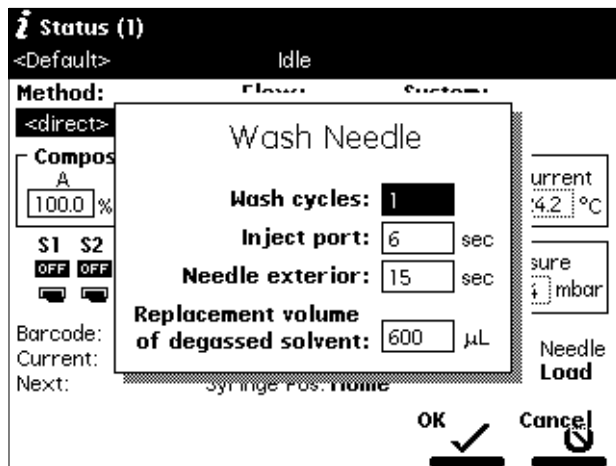

Figure 4-11 Wash Needle Dialog Box
3. Select **Wash Needle**, then press **Enter**. The Wash Needle dialog box appears (Figure 4-11).